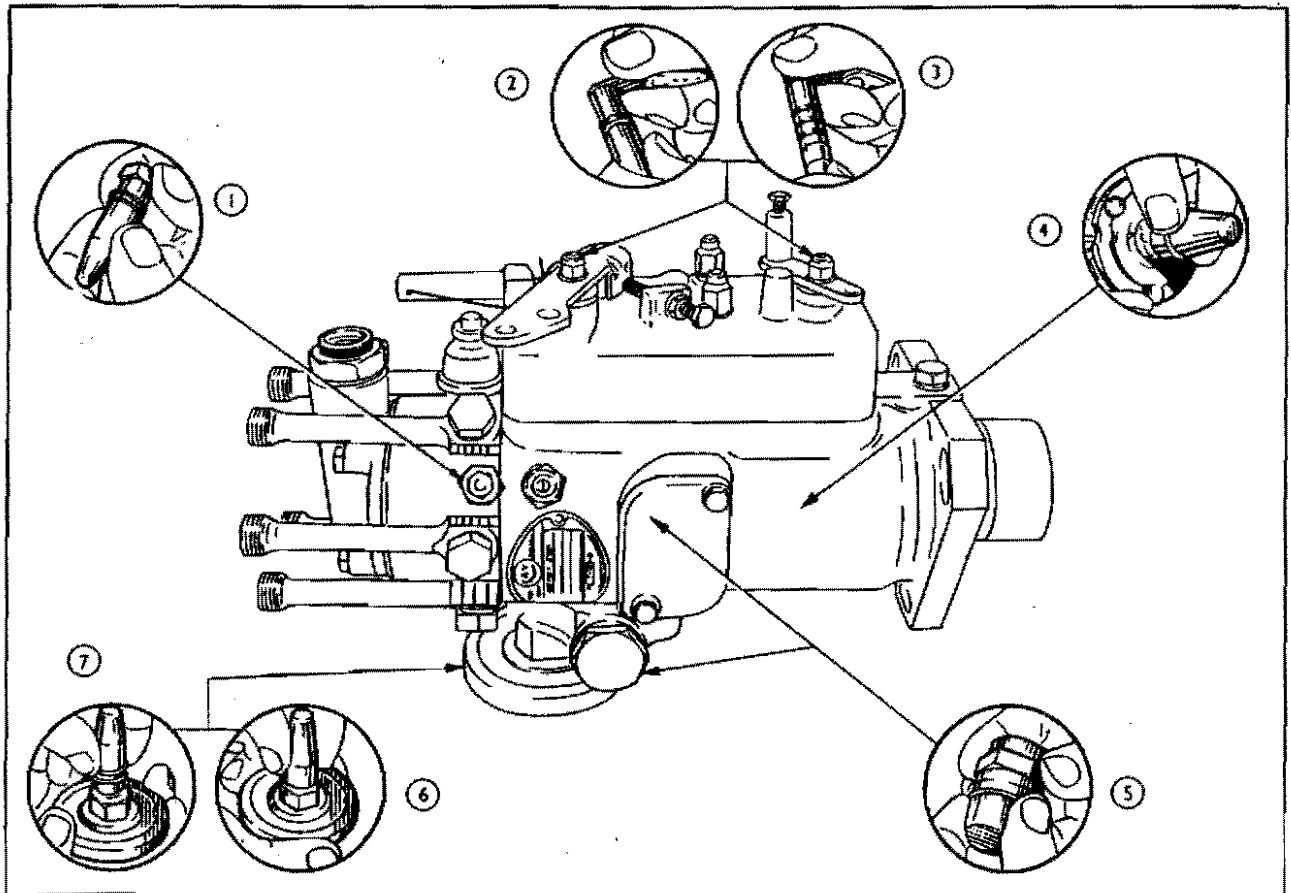

Fig. 82
15. Assemble the advance device. Insert the advance piston into the advance body so that the plain end is away from the circlip. Screw in the piston plug after first fitting a new "O" ring, using protection cap Tool No. CA.52., see Fig. 82.